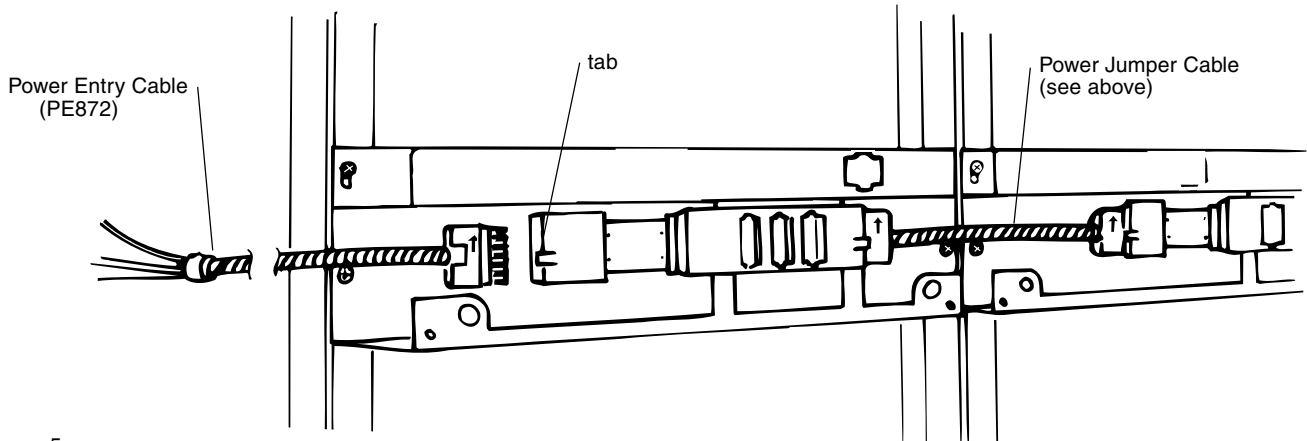

Figure 5
8. Select Power Jumper Cable required. (Figures 4). Turn jumper to the “up” position, marked on plastic end piece. Plug jumper into adjoining ends of the power blocks. Make sure jumper is located to the front side of the block for ease of assembly. (Figure 5)
10. After determining building power supply, plug female connector of Power Entry Cable into the power block of the distributor with the Cable in the “up” position. A licensed electrician must hardwire the Power Entry Cable to the building supply. (Figure 5)